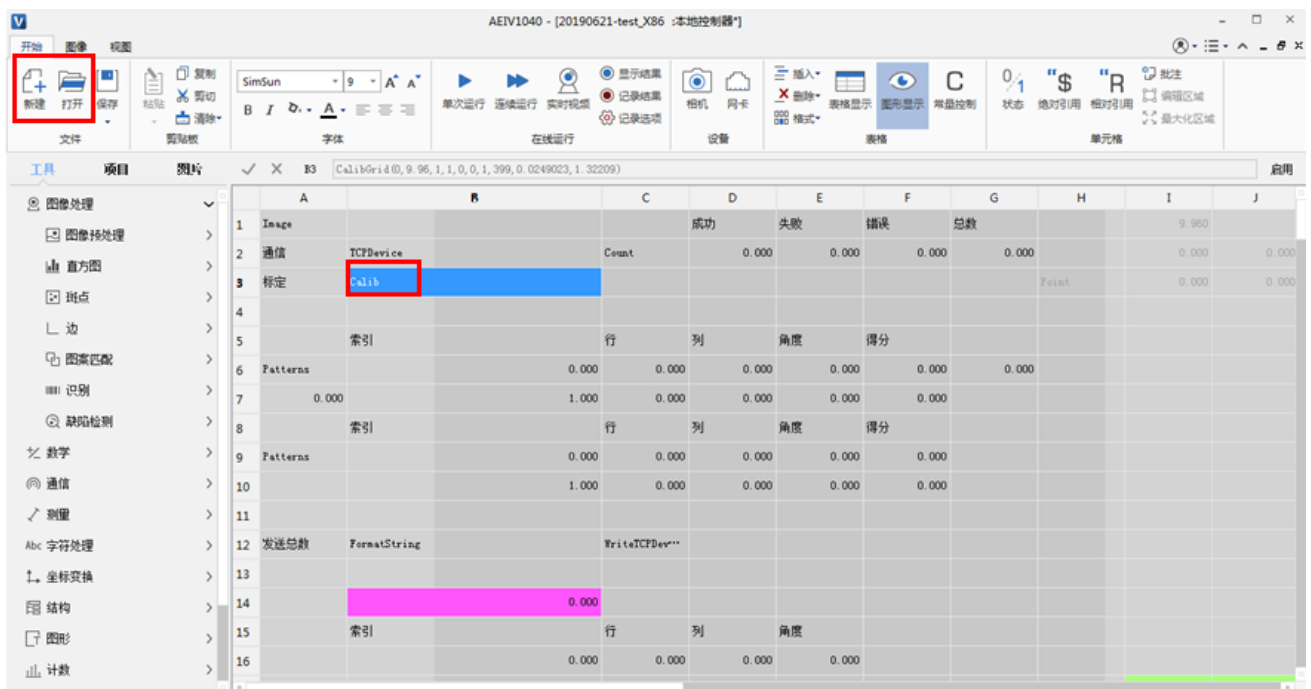

Figure 5-35 AEIV_studio new or import project interface
Step8. Click <New> to create a new project. Or click <Open> to import the previously created project. As shown in Figure 5-35.